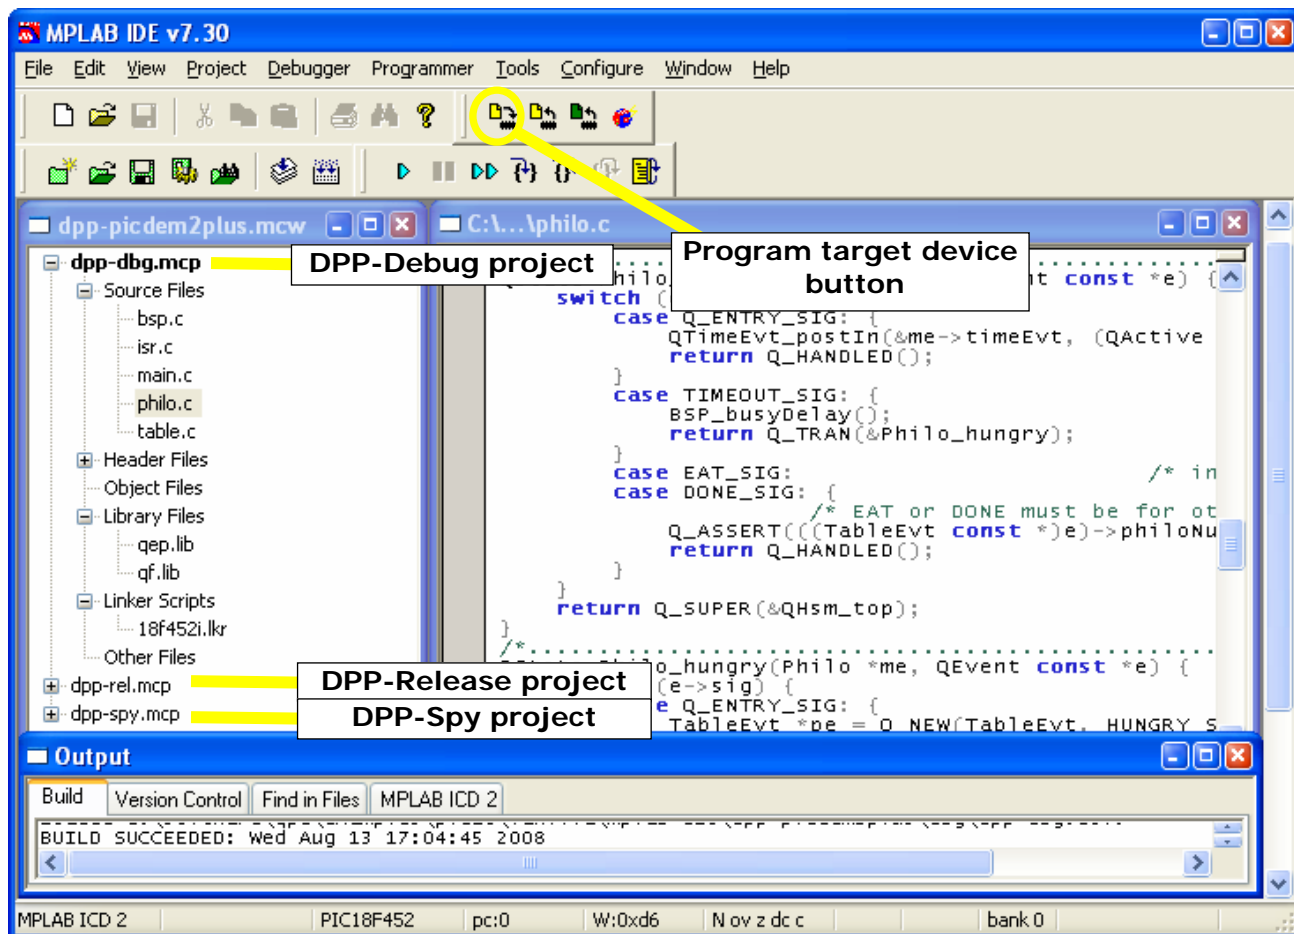

Figure 2 MPLAB IDE with the dpp-dbg.mcw workspace and 3 DPP projects
4. Open the MPLAB IDE and open the project dpp-dbg.mcp (located in <qp>\examples\pic18\vanilla\mplab-c18\dpp-picdem2plus\). Figure 2 shows the screen shot of the MPLAB IDE after opening the project.
The dpp-spy.mcp project contains the Spy configuration that enables the QS software tracing and links with the Spy-versions of the QP libraries (see Listing 1). You select the Spy configuration by activating the dpp-spy.mcp project in the MPLAB IDE (see Figure 2).